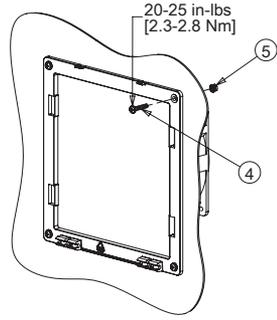

Figure 5
8. Torque fasteners to 20-25 in.-lbs (2.3-2.8 Nm). See Figure 5 on page 4.